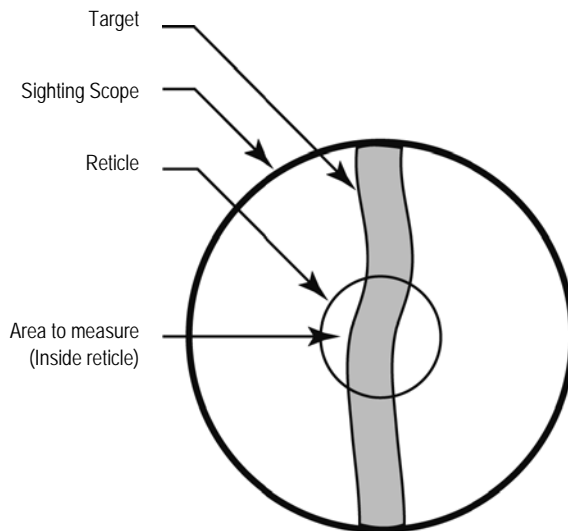

Figure 10: Sensor Eyepiece and Reticle
2. Look through the eyepiece and position the sensor so the target is centered as much as possible in the middle of the reticle, see Figure 10. (Note that the target appears upside down.)